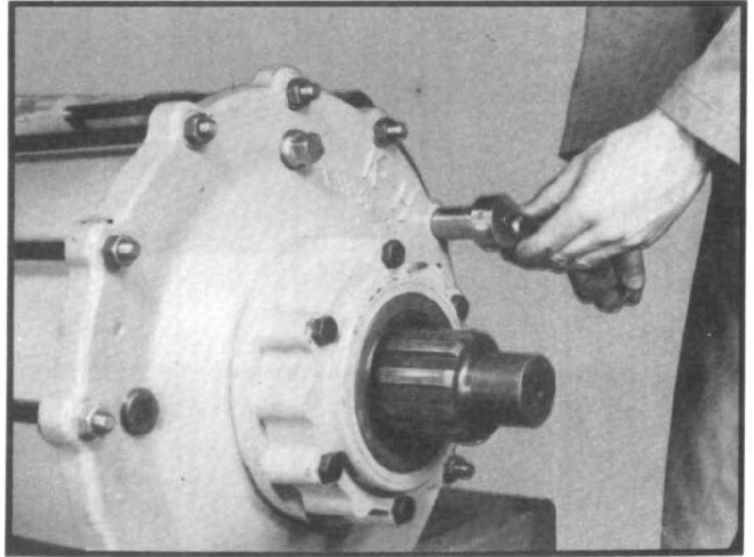
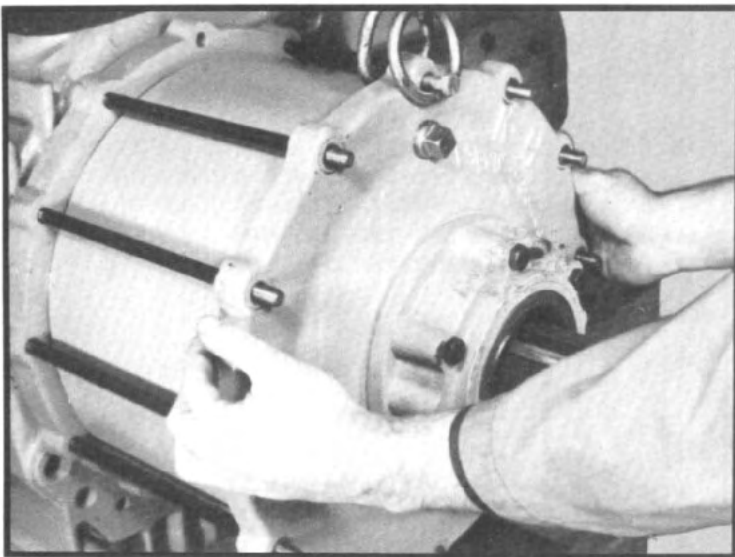
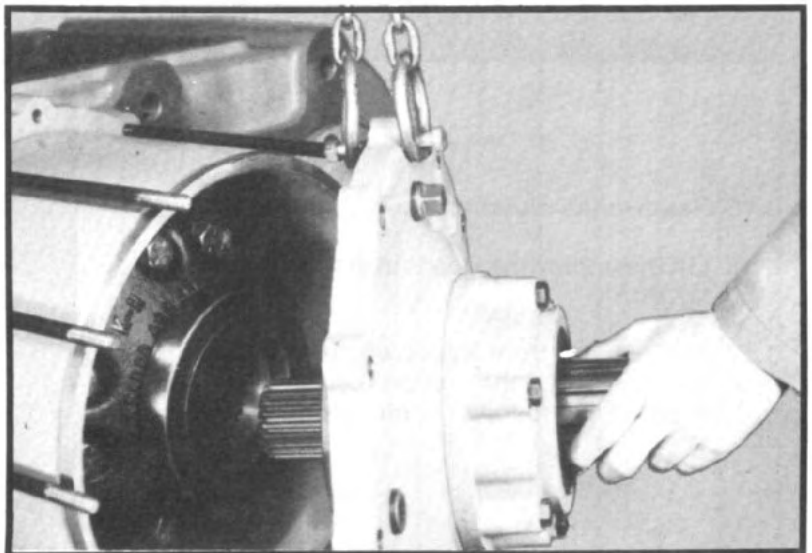

Fig. 41
Fig. 42
Fig. 43
- 2.4 Remove 12 stud nuts from studs. (See fig. 41.) Remove a top stud and install a bolt or eyebolt to differential cap through stud hole. Using a chain hoist fastened to the bolt or eyebolt, tap the differential cap until it is free from the studs. (See fig. 42.) Pull cap away from differential until it is free from the splines in the differential. (See fig. 43.)